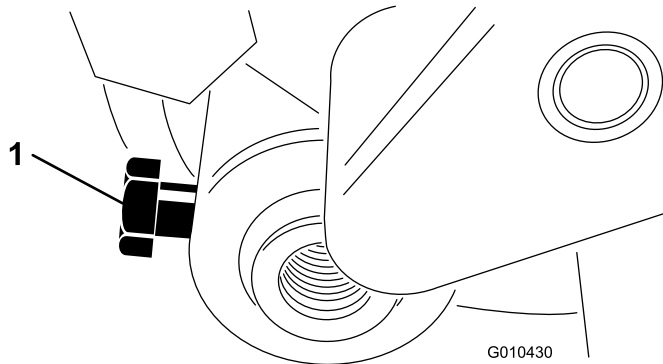

Figure 30
- Loosen the bolt securing the roller shaft to the height-of-cut arm (Figure 30).